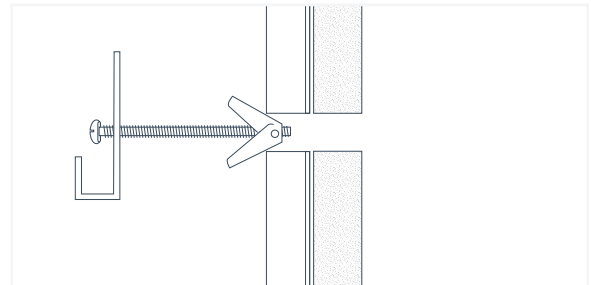

Fig. 52
2. Put the bolt through whatever mounting device you are using and ensure the end of the bolt is screwed into the center of the toggle so that the wings can be folded down on to the threads of the bolt (Fig. 52).